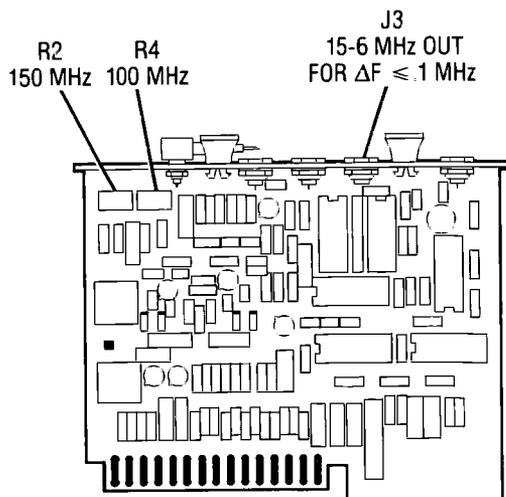

Figure 5-10. Location of PLL2 Adjustments
6. Adjust A40R2 (150 MHz) for a DVM indication of  $+3.0 \text{ Vdc} \pm 0.5 \text{ Vdc}$ . Refer to Figure 5-10 for location of adjustments.